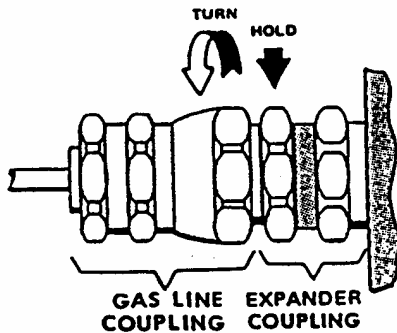

Figure 14 Break Gas Line Connection from the Cold Head
1. Always use two wrenches. Use one wrench to hold the cold head (expander) coupling. Use the second wrench on the gas line coupling nut to break the connection. See Figure 14.